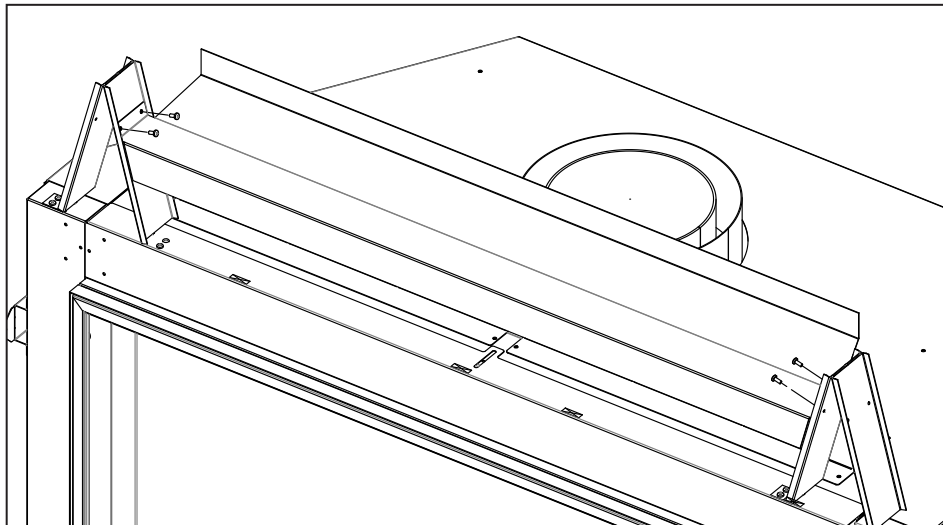

Figure 28: Top Standoff Support Install
3. Install heat shield support using four (4) supplied T-20 screws (see Figure 28).